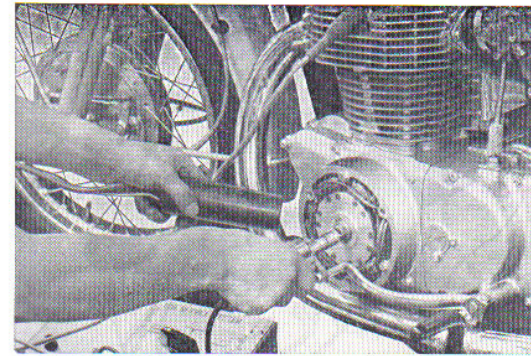

Fig. 5.106 Timing light
This light is used together with the tachometer to check the ignition timing and advancing condition. (Fig. 5.106)
- (1) Connect the power source battery, and set the switch on "Timing"
- (2) Connect the timing light red and white parallel cord plug to the socket marked "Timing" on the tester.
- (3) The timing light high voltage cord is connected to the alligator clip on the high voltage cord end by using attached metal fixture (a hex rod one end of which is provided with external thread and the other is provided with internal thread, is threaded into the spark plug head, and rubber cap is connected.) (Fig. 5.106)
- (4) Remove screws, generator cover, and point cover individually before hand.